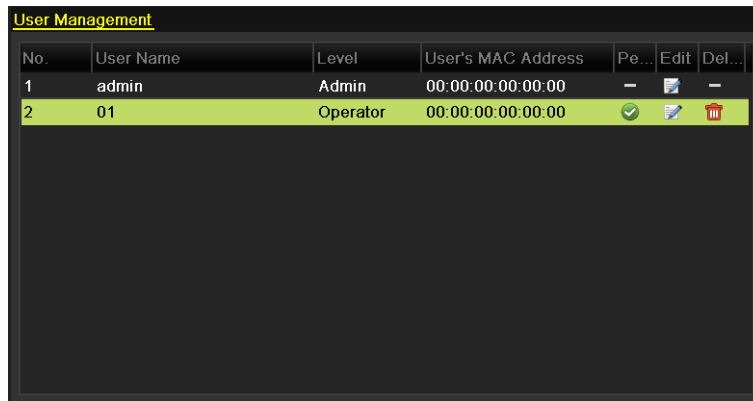

Figure 16-7 Added User Listed in User Management Interface
- Step 5** Click the **OK** button to save the settings and go back to the User Management interface. The added new user will be displayed on the list, as shown in Figure 16-7.